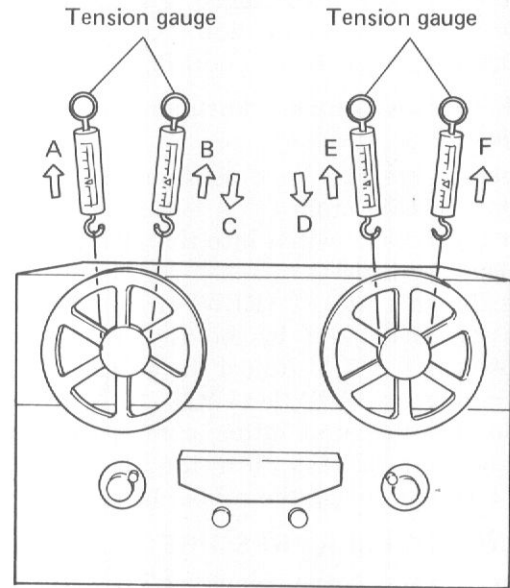
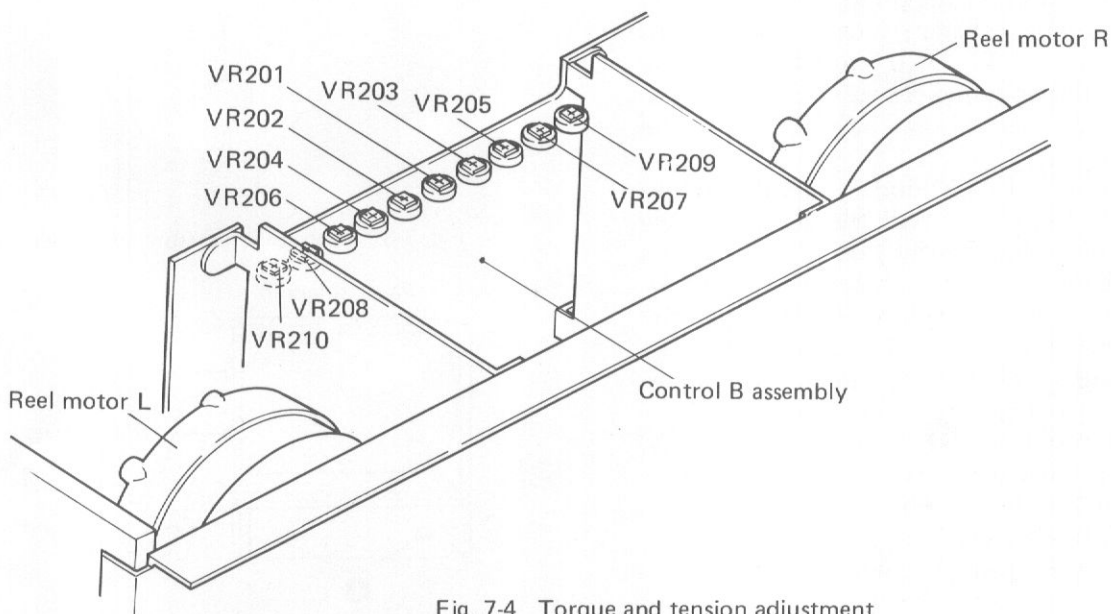

Fig. 7-3 Torque and tension adjustment
Fig. 7-4 Torque and tension adjustment
2. Wind a piece of thread onto an empty No.7 reel (hub diameter of 60mm), and tie the other end of the thread to a tension gauge as shown in Fig. 7-3.
2. Start the unit in FWD PLAY (REV PLAY) mode, and “take-up” the tension gauge in the D (C) direction (tension gauge “fed in”) as shown in Fig. 7-3. Adjust VR203 (VR204) in the Control B Assembly shown in Fig. 7-4 so that the tension gauge reads 240 – 260g. Take-up torque is increased by turning these VRs clockwise, and decreased by turning counter clockwise.
2. Put the unit into FWD PLAY (REV PLAY) mode. Pull the tension gauge in the B (E) direction as shown in Fig. 7-3, and read off the gauge value. Adjust the gauge reading to 95 – 105g by means of VR210 (VR209).
2. Put the unit into FF mode, and have the tension gauge "taken up" (i.e. "fed in") in the D (C) direction as shown in Fig. 7-3. Adjust the tension gauge reading to 440—460g by VR205 (VR206). When switching the unit over to stop mode after completing the adjustment, set the shut-off switch to the OFF position (by removing the rubber bands). The motor will rotate in the reverse direction if the STOP button is pressed under these conditions.
2. Put the unit into FF (REW) mode, and pull the tension gauge out in the B (E) direction as shown in Fig. 7-3. Adjust the gauge readings to 60—65g by VR208 (VR207). Again, when stopping the unit after completion of the adjustment, always turn the shut-off switch OFF (by removing the rubber bands).